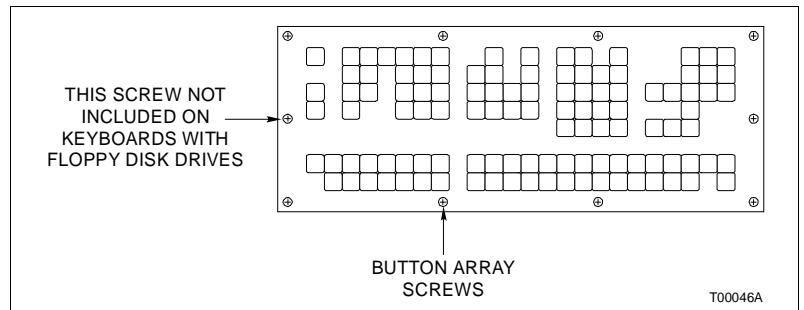

Figure PR60-1. Keyboard Button Array
2. Use the Phillips head screwdriver to remove the nine (for keyboards with a floppy disk drive) or ten (for keyboards without a floppy disk drive) button array screws that secure the keyboard button array to the keyboard base (Fig. PR60-1).